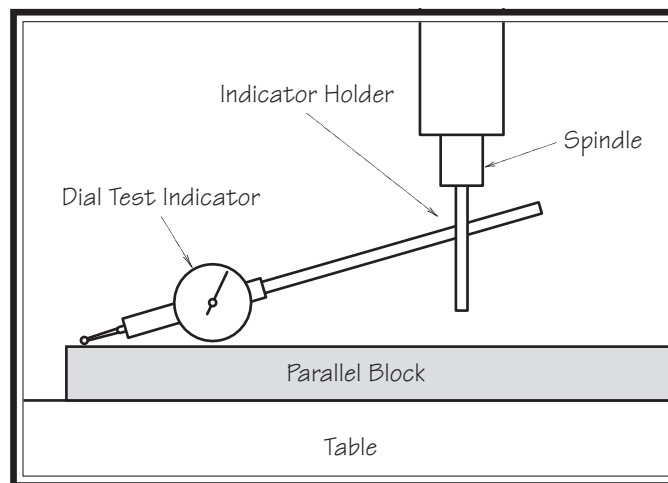

Figure 28. Dial test indicator mounted.
4. Install the indicator holder into the spindle or onto the quill, then mount the indicator onto it so that the point is as parallel to the block as possible (see the illustration in **Figure 28** for an example).